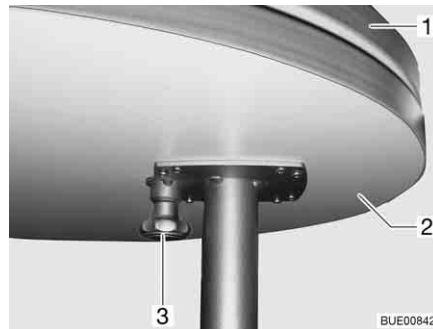

Fig. 94 Fixed table
- Pull the knob (Fig. 94,3) of the lock down and swing out the table-top extension (Fig. 94,2).
- Swing the table-top extension (Fig. 94,2) under the table-top (Fig. 94,1) until the lock latches in place audibly.